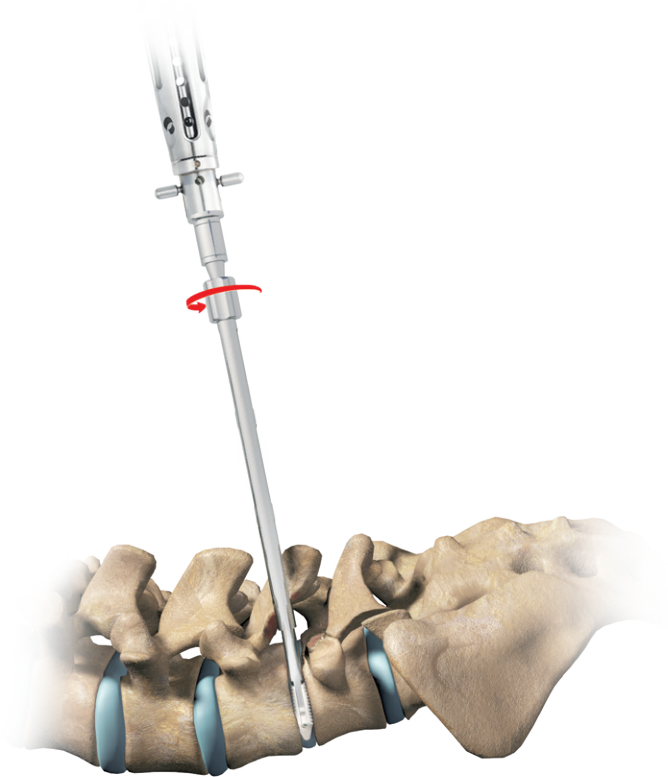

Fig. 12a
4. Attach the Slap Hammer by aligning it to the Implant Remover, pulling up the two prongs and sliding it down, then turning it clockwise to lock it. (**Fig. 12a**)